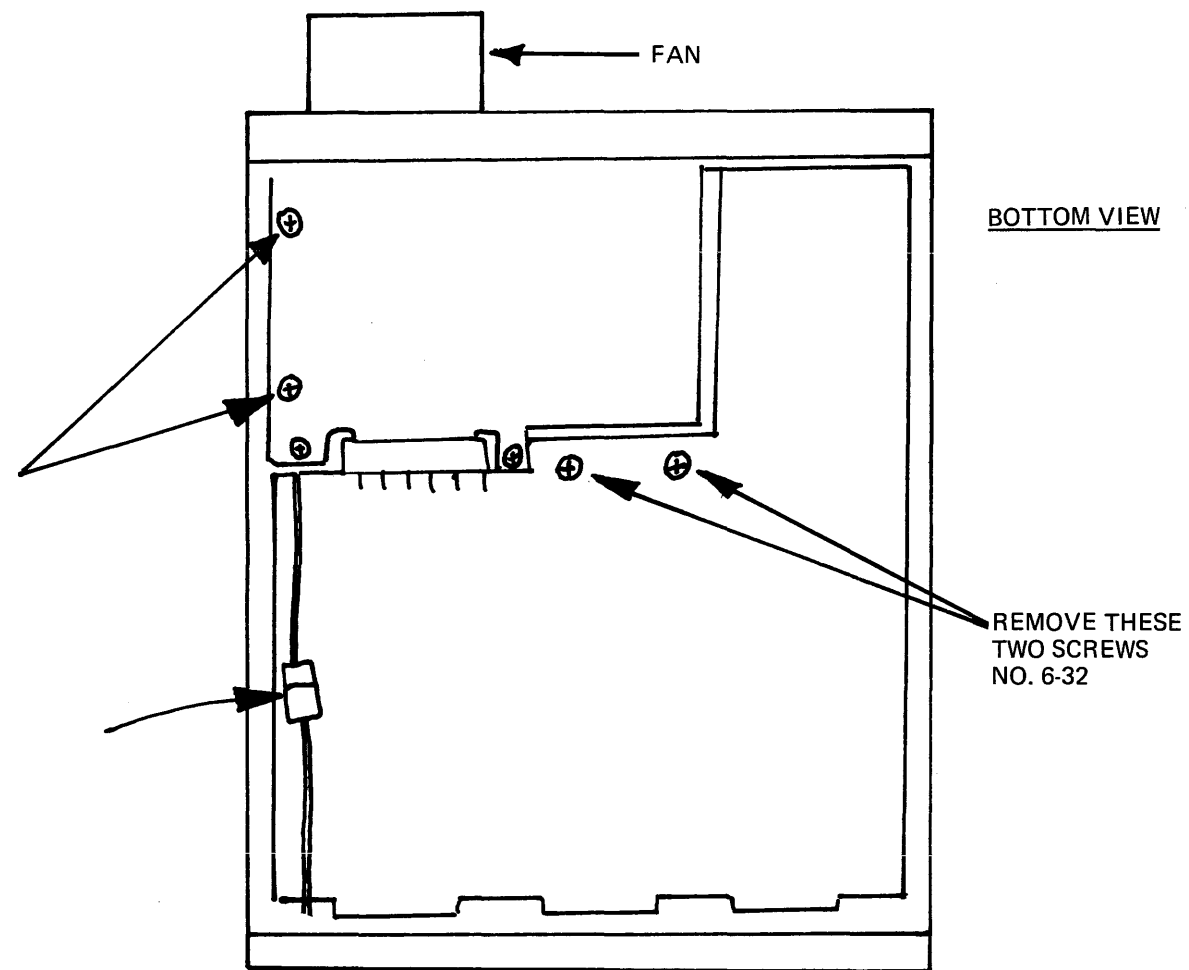

FIG. 3
- Step 4. Remove 4 screws as shown, unplug AC power connection, Fig. 3.
ction, Fig. 3.